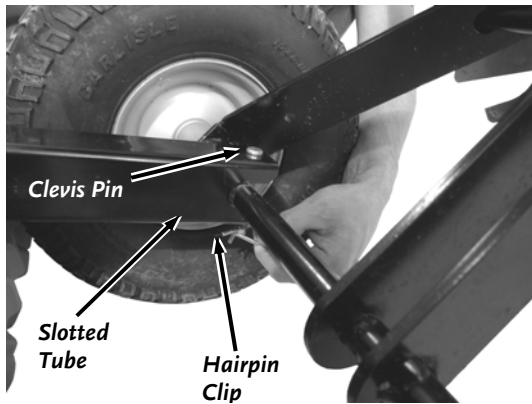

Figure 22
5. Insert the Clevis Pins into the holes at the ends of both Slotted Tubes from the top and secure the Clevis Pins with Hairpin Clips (Figure 22).